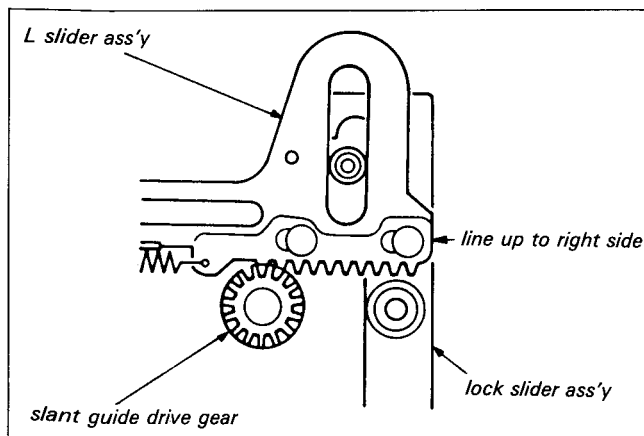

Fig. 7-27.
- 1) Operate the mode selector, and line up the right edge of the L slider assembly and the right edge of the lock slider assembly. (See Fig. 7-27.)